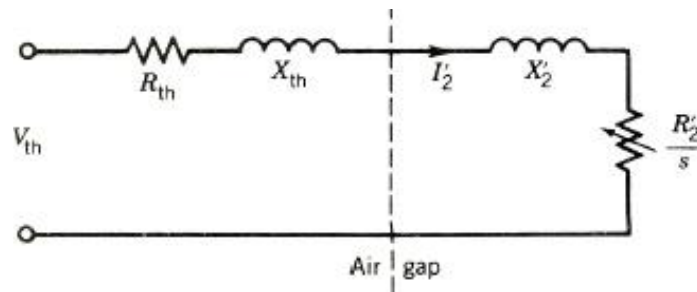

FIGURE 5.16 Thevenin equivalent circuit.
- (c) Determine the parameters (V_{th} , R_{th} , X_{th}) for the Thevenin equivalent circuit of Fig. 5.16.